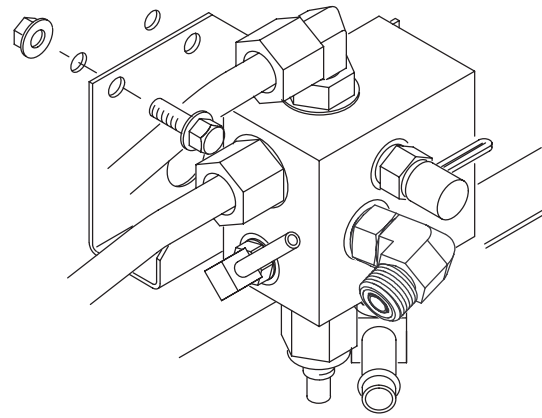

Figure 10
15. Using the lower set of holes in the right side frame member, mount the manifold bracket with 2 flange head capscrews (5/16 x 5/8 in.) and locknuts (Fig. 10).